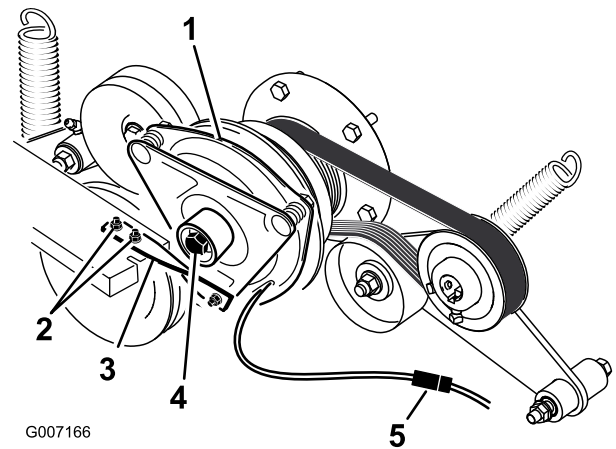

Figure 59
6. Unplug the electric connection for the clutch (Figure 59).
7. Remove the two bolts holding the rubber clutch strap to the mower frame (Figure 59).
8. Remove the center bolt holding the clutch to the engine shaft and remove the clutch and key (Figure 59).
15. While holding the crank shaft at the back of the machine, install the center bolt and torque it to 50 ft-lbs (68 N-m) (Figure 59).
16. Install the rubber clutch strap to the mower frame with the two previously removed bolts and nuts (Figure 59).
18. Plug in the electric connection for the clutch (Figure 59).